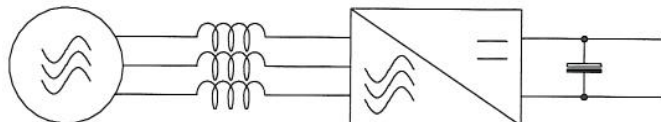

Figure Q5.2 An AC to DC converter and AC supply
- (d) A three-phase AC to DC converter is connected as shown in figure Q5.2 to a 415 V(line), 50 Hz three-phase system via a set of inductors of 4 mH each. Calculate the inverter voltage (magnitude and phase) necessary to draw 35 kW from the inverter to the three-phase system at unity displacement factor. Calculate the voltage required to return 35 kW to the three-phase system from the DC side. [4]